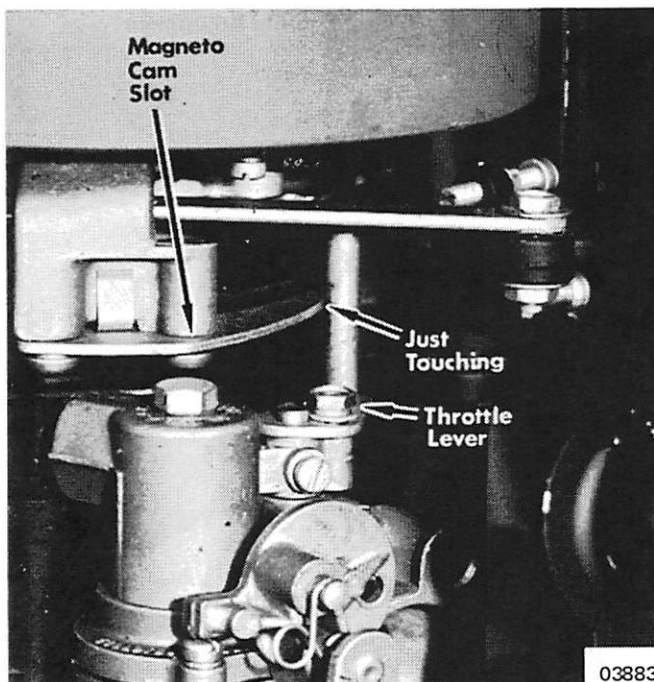

Figure 1. Throttle Pickup Adjustment
magneto cam should just touch throttle lever on carburetor. (Figure 1)
*NOTE: On later model 1968 engines, the magneto cam (Figure 1) also is slotted for a finer adjustment of pickup point.*